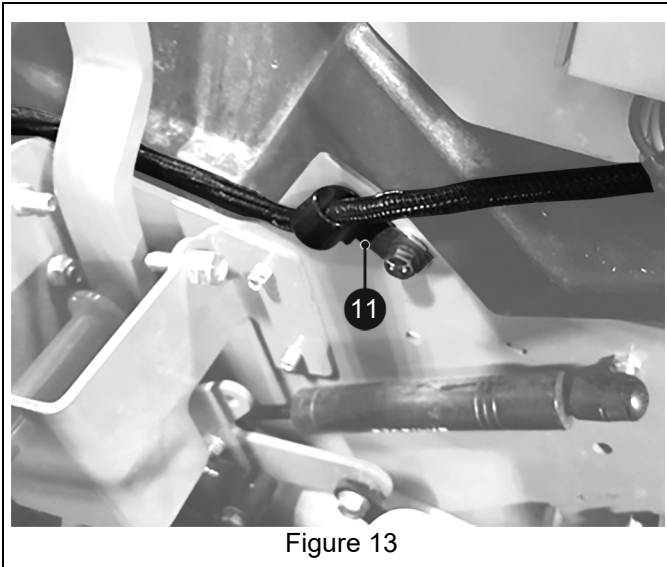

Figure 13
5. Position one J-clamp (item 11) against frame and retain with hardware just removed. Position actuator harness in clamp. See Figure 13.